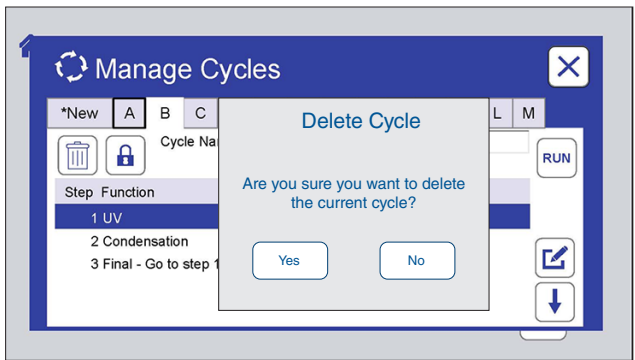

Figure 11.6.2c: To delete an inactive cycle, the operator is prompted for verification. Touch No to cancel delete. Touch Yes to create a blank cycle.
- Deleting an inactive cycle will create a blank cycle with only a final step (Figure 11.6.2c).